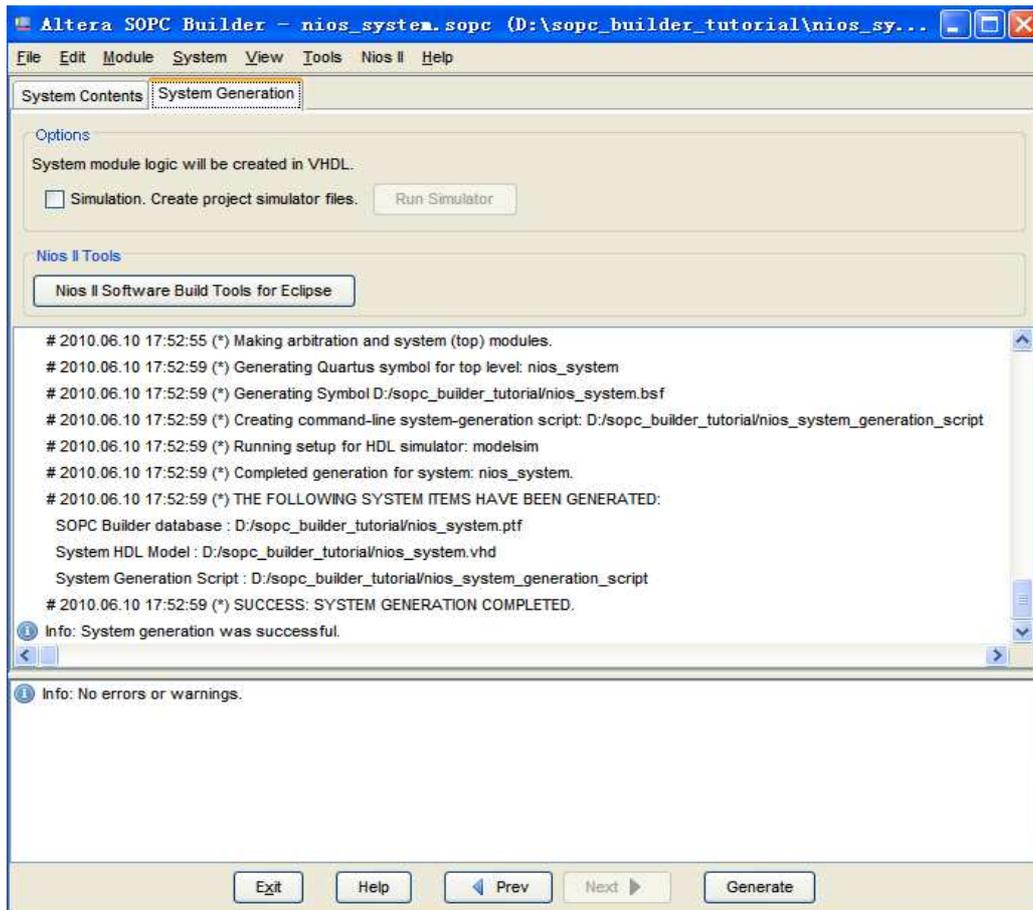

Figure 15.Generation of the system.
13. Having specified all components needed to implement the desired system, it can now be generated. Select the System Generation tab, which leads to the window in Figure 15. Turn off Simulation – Create simulator project files, because in this tutorial we will not deal with the simulation of hardware. Click **Generate** on the bottom of the SOPC Builder window. The generation process produces the messages displayed in the figure. When the message “SUCCESS: SYSTEM GENERATION COMPLETED” appears, click **Exit**. This returns to the main Quartus II window.